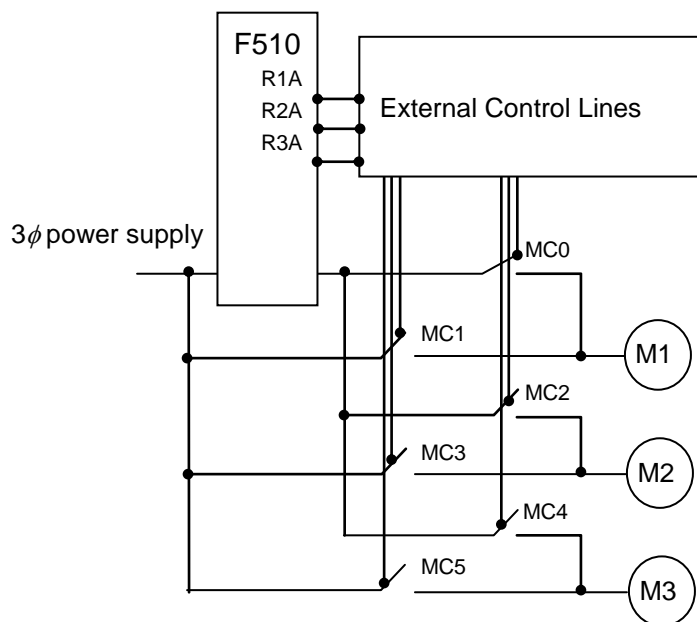

Figure 4.3.118 Cycle modes of inverter pump by built-in relay
- The following examples are the timing charts for switching relays on and off in cycle mode using the built-in relays. Set 24-00=1, 24-06=0, enable the PID function. Relay1 to Relay3 are now set to operate as R1A to R3A. Fig 4.3.118 is the timing diagram of this mode; please refer to Appendix A for a detailed wiring diagram of the system.